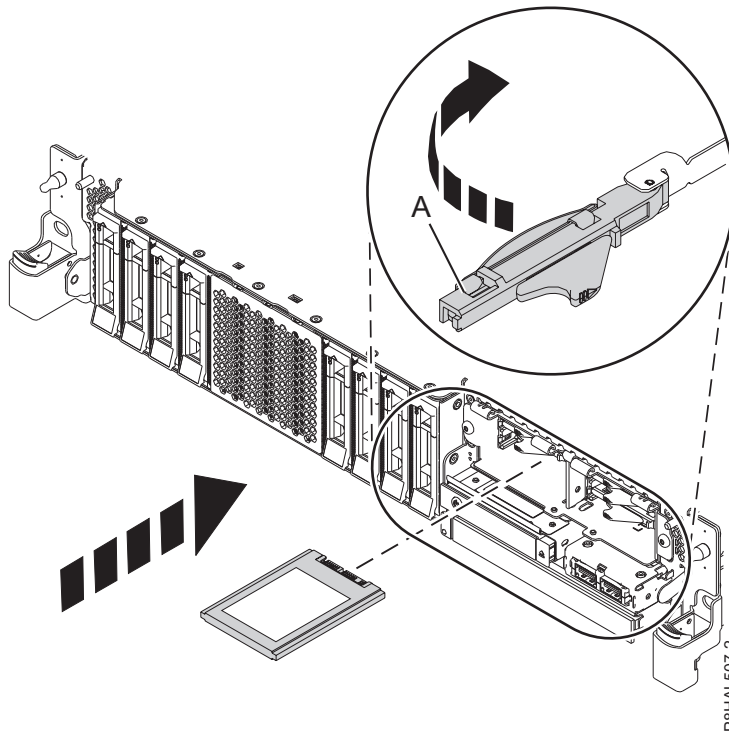

Figure 14. Installing an SSD in an 8408-44E or 8408-E8E system
14. With the SSD drive bay handle (A) in the unlocked position, pull the lever outward to gain access to the guide rails in the SSD slot. Support the bottom of the SSD as you align it with the guide rails in the SSD slot. See Figure 14 on page 23.
18. Lock the drive by rotating the bay handle (A) in the direction that is shown in Figure 14.